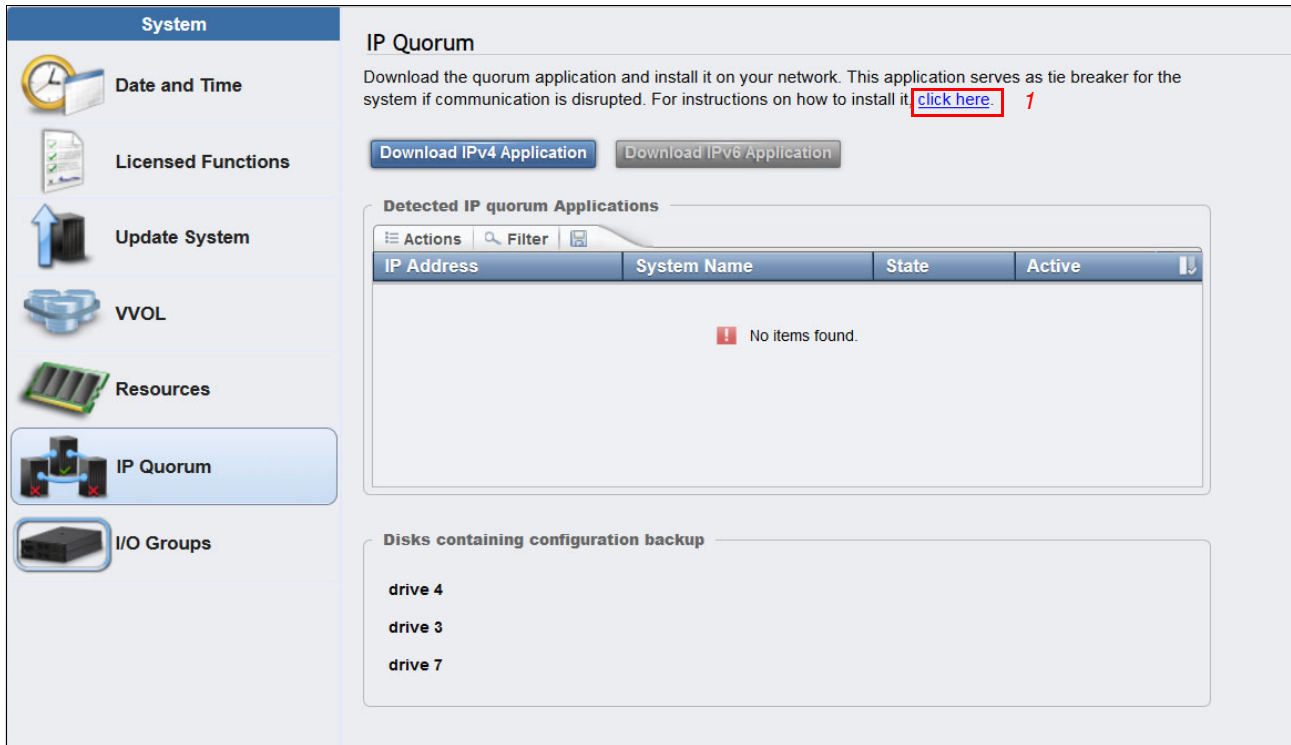

Figure 9-91 IP Quorum main screen
Figure 9-91 shows the IP Quorum panel. Click the **click here** link for instructions (1). The IP network is used for communication between the IP quorum application and control enclosures in the system. If you currently have a third-site quorum disk, you must remove the third site before you use an IP quorum application.